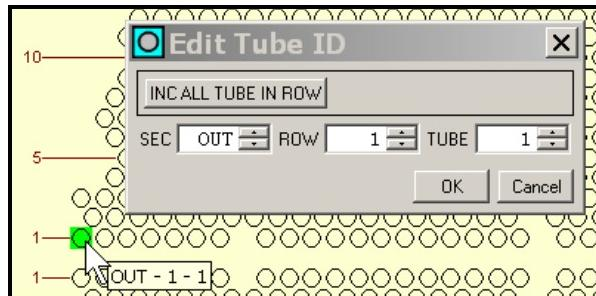
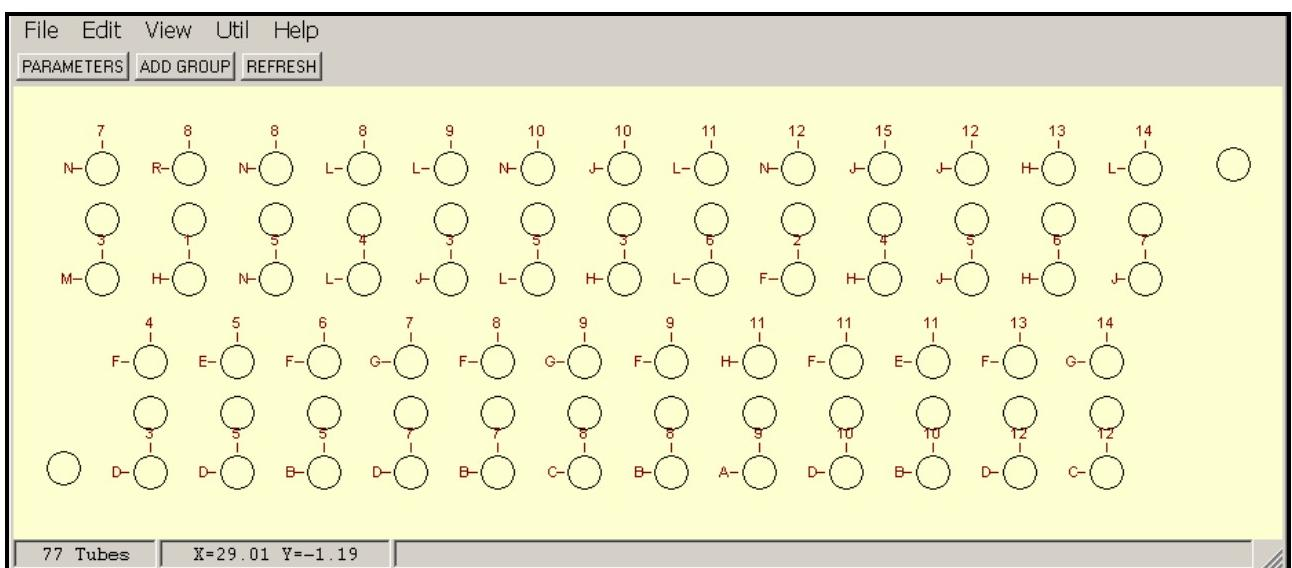

Figure 50. Using Popup | Edit Tube ID
Figure 51. Example of Tube Identification for Thimble Tubes (Edit Tube ID)
- **Popup | Edit Tube ID**: This function is used to assign a different tube identification to a given tube. Tube identification is usually in the format of *SEC-ROW-COL*. For example in Figure 50, the cursor is pointing to a tube with a tube identification of *OUT-1-1*. If the **Sec Name** field on the **Parameters** tab of the main **Parameters** dialog is left blank, then tube identifications will be in the format *ROW-COL*. To assign a different tube identification for a given tube, click **Edit Tube ID** on the **Popup** menu. The **Edit Tube ID** dialog shown in Figure 50 appears. Click on the tube you wish to re-identify. A green cursor box appears around the tube. Next, click or right-click in the **SEC**, **ROW**, and **TUBE** fields as necessary to *dial-in* the new **Tube ID**. Continue this process until all the tubes of interest have been re-identified. This function, though rarely used, is extremely valuable in setting the **Tube IDs** of seal-table thimble tubes as shown in the example in Figure 51.
The **INC ALL TUBE IN ROW** button on the **Edit Tube ID** dialog shown in Figure 50 simply increments all the tube (col) values in the selected row. The button has no effect on the sec or row values in the selected row.